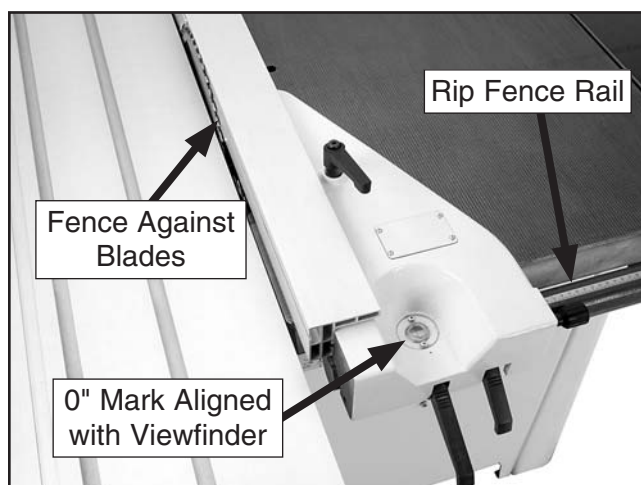

Figure 29. Setting scale to zero.
24. Move the rip fence against the blades again. Loosen the screws that secure the rip fence rail, line up the 0" mark on the scale with the viewfinder of the rip fence, then tighten the rip fence rail mounting screws (**Figure 29**).